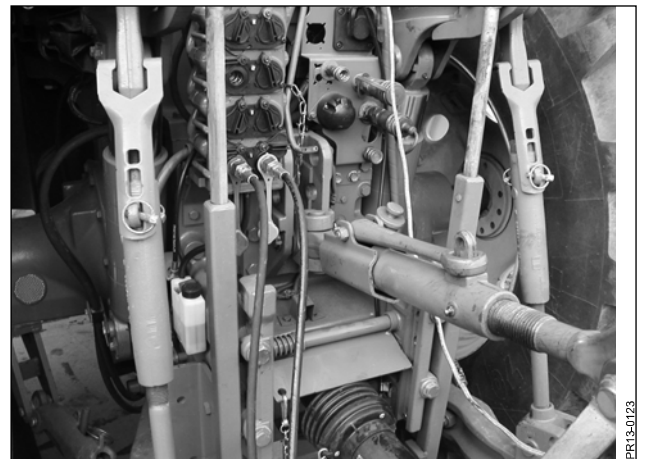

Fig. 2-4
**Fig. 2-4** Connect the hydraulic hoses to a double-acting hydraulic outlet. Place the machine in working position by first raising the link arms, then activate the double-acting outlet, and at the same time actuate the valve by pulling the cord.